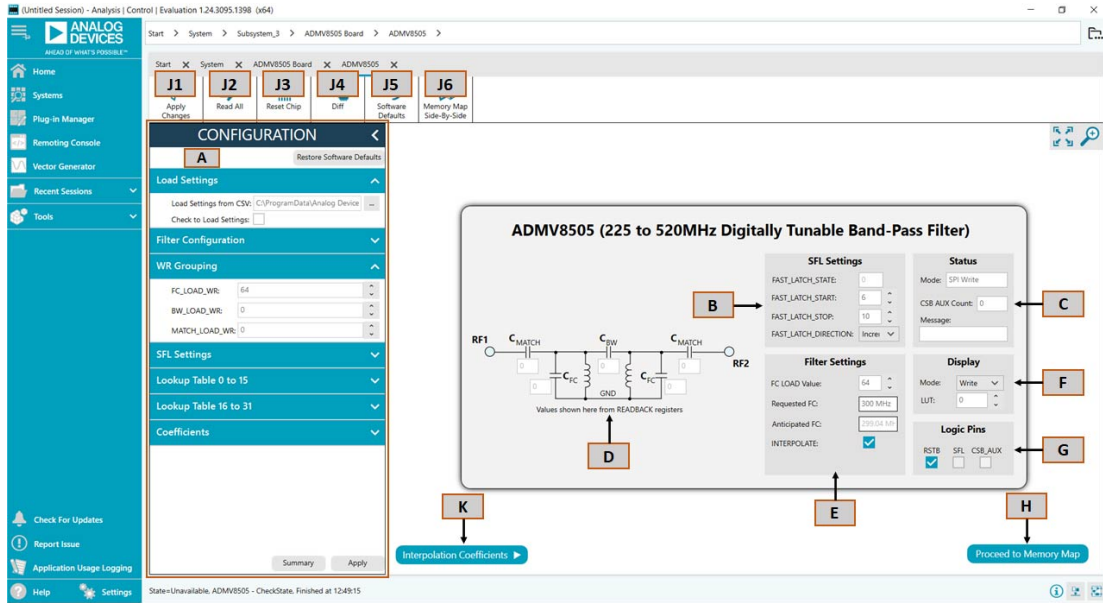

Figure 7. ADMV8505 Chip Plug-In with Labels
The full screen ADMV8505 chip plug-in with labels is shown in Figure 7. The labels correspond to items listed in Table 1, which
Table 1. ADMV8505 Chip Plug-In Label Functions (See Figure 7)
Table 1. ADMV8505 Chip Plug-In Label Functions (See Figure 7) (Continued)
E	<p>The Filter Settings section shows several controls for configuring the filter. Depending upon if INTERPOLATE is enabled, various controls can be visible. When INTERPOLATE is enabled (as shown Figure 7), the following controls are visible:</p> <p>FC_LOAD Value: this numeric up and down box (0 to 255) is used to set the desired center frequency value. Note that this is a unitless quantity, where a 0 corresponds to the lowest center frequency, and 255 corresponds to the highest center frequency.</p> <p>Requested FC: enter in a requested center frequency in this text box. The value entered is used to compute the closest FC_LOAD Value for that frequency of operation.</p> <p>Anticipated FC: this text box is an estimation of the operating center frequency based upon the FC_LOAD Value.</p> <p>INTERPOLATE: this check box enables the interpolation functionality on the chip.</p> <p>When INTERPOLATE is disabled (not shown in Figure 7), the following controls are visible:</p> <p>FC_LOAD Value: this numeric up and down box (0 to 255) is used to set the desired center frequency capacitor code.</p> <p>BW_LOAD Value: this numeric up and down box (0 to 255) is used to set the desired bandwidth capacitor code.</p> <p>MATCH_LOAD Value: this numeric up and down box (0 to 255) is used to set the desired input and output match capacitor code.</p> <p>INTERPOLATE: this check box enables the interpolation functionality on the chip.</p> <p>READBACK Values to Filter Settings: this button is available when interpolation is disabled. Click this button to populate the read back values from the hardware into the FC_LOAD, BW_LOAD, and MATCH_LOAD values.</p>
If a reset of the ADMV8505 chip is required on the ADMV8505-EVALZ, click **Reset Chip** (see Figure 7, Label J3, and Table 1 for additional information). This automated sequence performs the following actions:
- ▶ The $\overline{\text{RST}}$ pin can also be pulled low from within the **ACE** software by unchecking the **RSTB** check box in the lower right corner of Figure 7 (see Label G). When using this option, be sure to click the check box again to return the $\overline{\text{RST}}$ pin high.